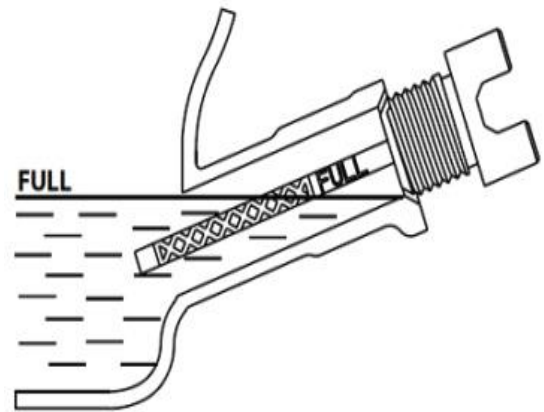

Figure-3 Safe Operating Range
- * Remove dipstick and verify oil level is within safe operating range. **See Figure-3**.